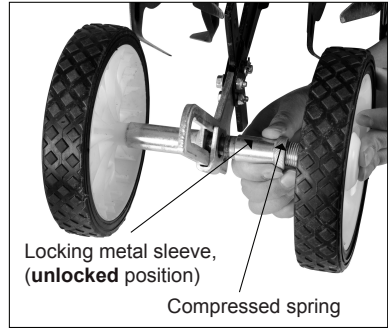

Fig.4
B. Slide the wheel set up or down to the desired position, and release the locking metal sleeve until it locks into desired groove in the wheel adjuster plate (No.11). wheel adjuster plate (No.11). **Fig 4**